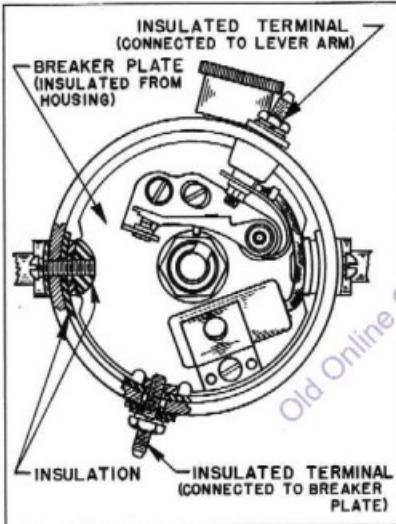

Fig. 39—Ignition Distributor Connections
- Install the breaker plate in the distributor body, assemble breaker plate insulation. Then assemble the distributor cap retaining clips; the screws which mount the clips are screwed into insulation nuts on the inside of the breaker plate, Fig. 39.